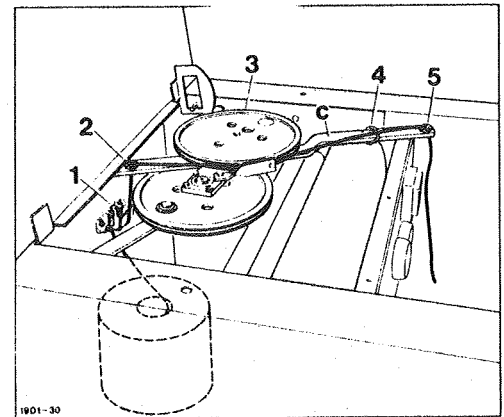

fig. 8
Put the twine spool into the twine box on the right hand side and pull the twine through the twine brake (1) and eye (2). The twine is put round the drive disc (3) once, goes under the spring (4) on to the twine guide arm and through the eye (5). (fig. 8)